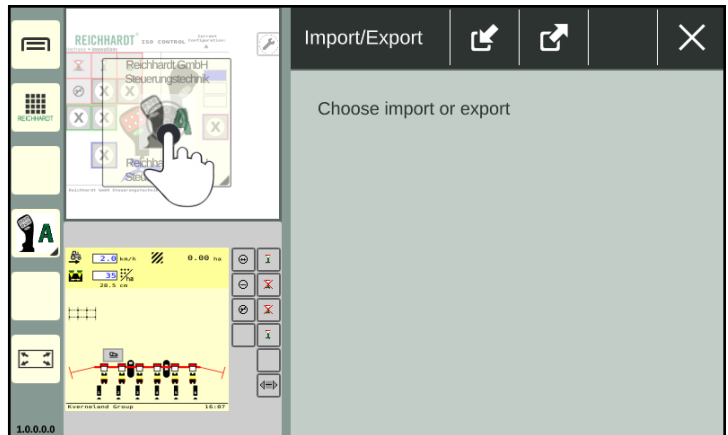

Fig. 57: Pressing and holding the application in a small window
1. Press and hold the application in the small window until the application symbol appears (see Fig. 57).